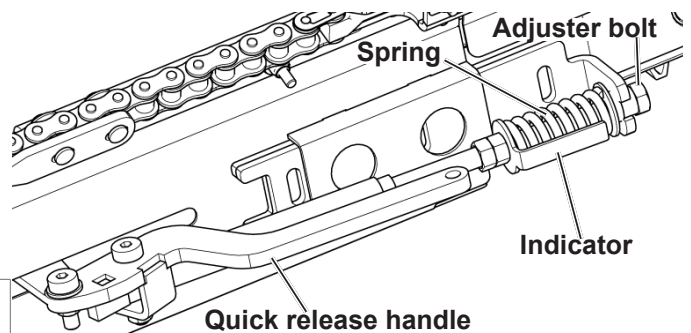

Fig. 99 - Deck Tensioning
1. Make sure that the quick release lever is in the open position prior to installing the draper on the deck. The location of the lever is shown in Fig. 99 on page 61.